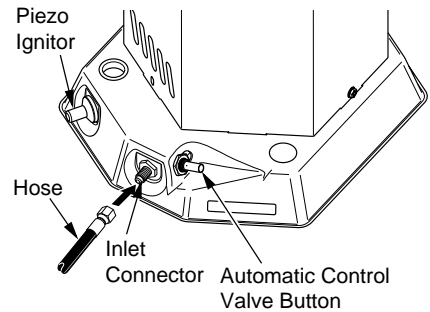

Figure 3 - Hose and Inlet Connector, Automatic Control Valve Button and Piezo Ignitor Button Locations
2. Connect hose to inlet connector (see Figure 3). Tighten firmly using a wrench.
5. Push in and hold automatic control valve button (see Figure 3). Push and release piezo ignitor